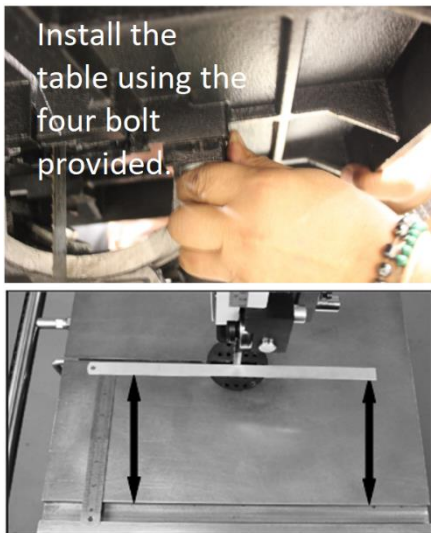

Figure 5: Installing and Aligning the Table.
- Ensure that the table's miter gauge slot is parallel to the side of the saw blade. This alignment is crucial for achieving accurate cuts see (Fig.5).
- Measure the distance from one end of the ruler to the miter gauge slot (Fig.5).